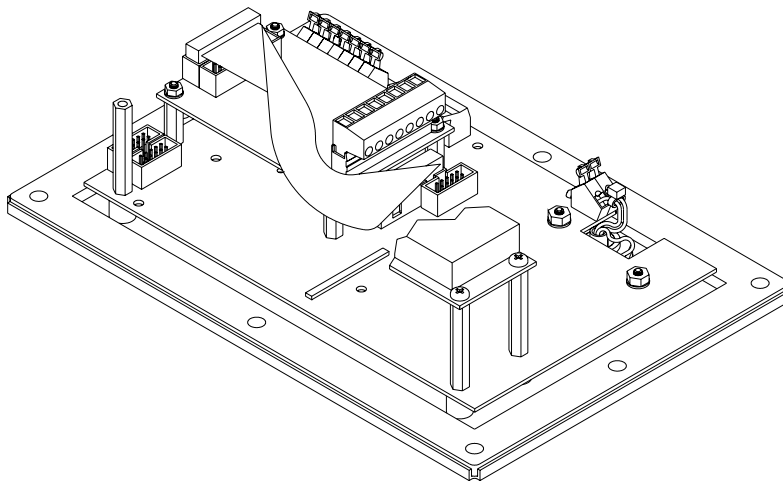

Figure 10-5: 460 SBM Installation
1. Install the four M3 Male-Female aluminum standoffs on the 4 short studs protruding through the main board using a 6mm socket or wrench. See Figure 10-5.